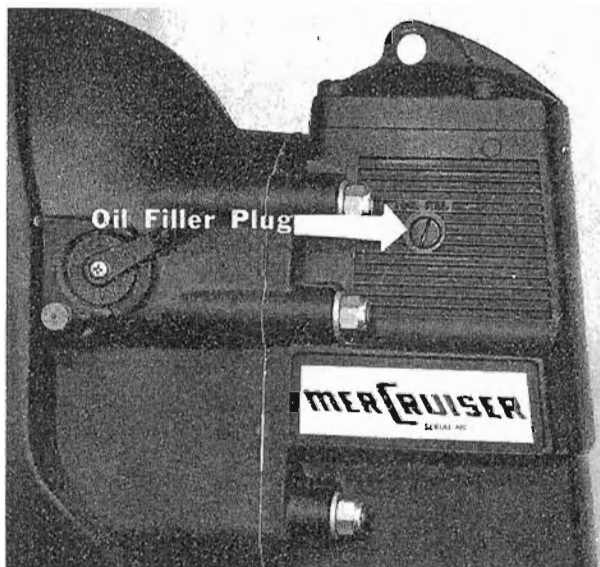

Fig. 1. Oil Filler Plug in Upper Gear Chamber
1. Remove "OIL FILL" and "OIL VENT" plugs and gaskets located on the right and left sides of the drive shaft housing. (Figures 1 and 2) Lubricant must be even with bottom edge of threaded "OIL VENT" hole when unit is level.